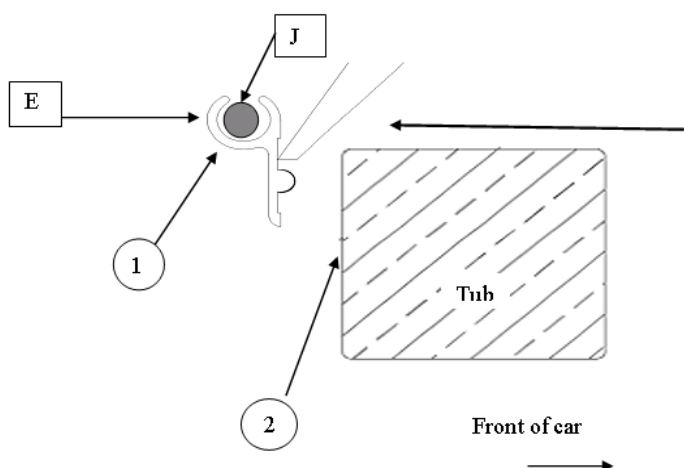

Figure 1: Placement of aluminium rope track. Ensure channel is above the tub's top edge.
2. Place the 2 pieces of dowel in the ends of the rope track. Ensure the flat side of the rope track is the surface positioned against the tub face. **See Figure 1**